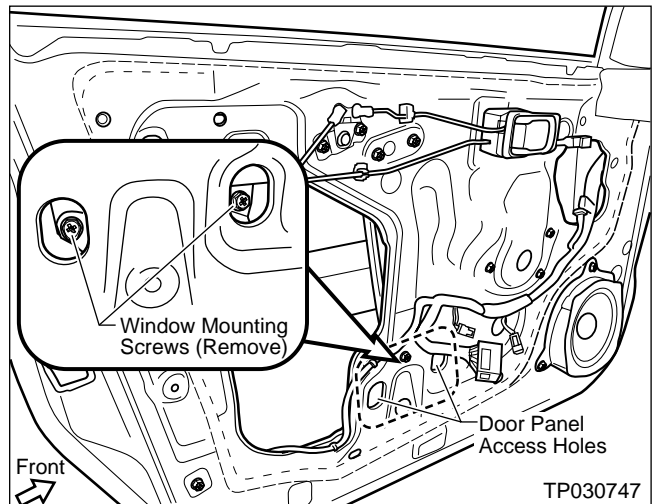

Figure 7
9. Temporarily re-connect the Door Control Panel to the Vehicle Harness. Then adjust (up or down) the window until the Window Mounting Screws are visible in the Door Panel Access Holes (see Figure 7).
10. While holding onto the window, remove the Window Mounting Screws (see Figure 7).